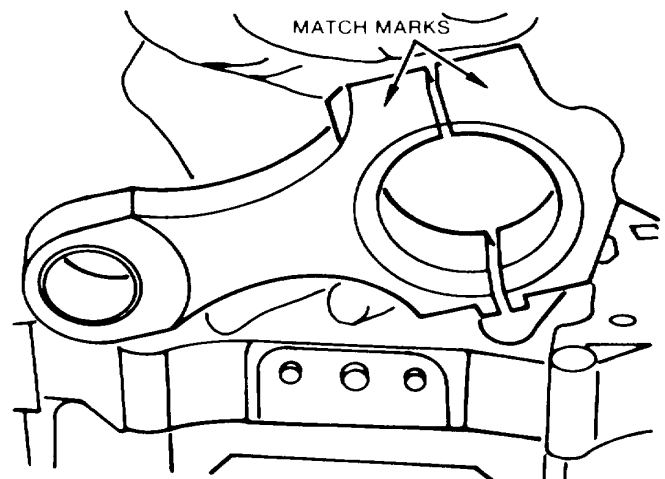

Figure A-36. Connecting Rod
e. Connecting Rod. Note the painted marks on one side of the connecting rod. When installed, this side should face the injection pump. Also be sure that the stamped match marks on the connecting rod and cap are aligned on the same side of the rod. (Figure A-36.)